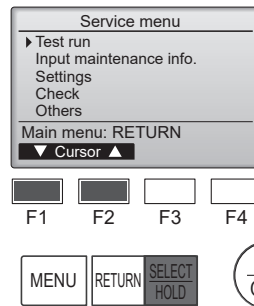

Fig. 7-1
- ① Select "Test run" from the Service menu, and press the [SELECT/HOLD] button. (Fig. 7-1)